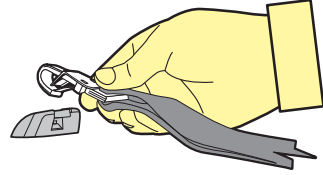

Figure 11
**Step 5:** Hook the attachment clip to the anchor fitting. Ensure there are no twists in the top tether strap (refer to Figure 11).